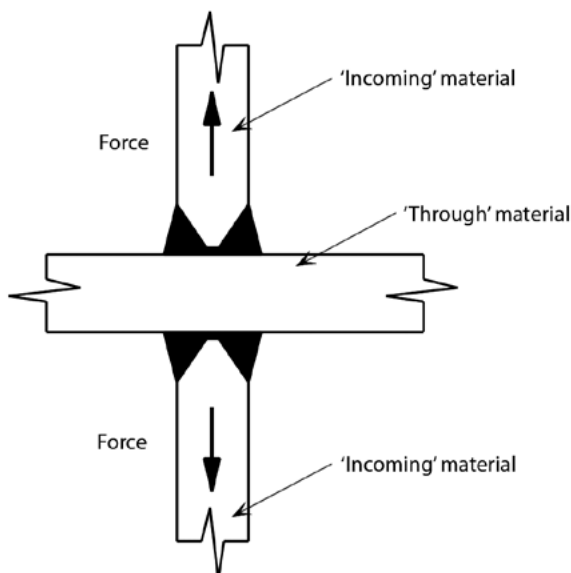

Figure 1 – Cruciform joint
Steel with improved through thickness properties is often referred to as "Z grade", although the formal description is 'Quality class'. The "Z" is simply because the dimensions in-plane are "x" and "y" and out-of-plane, through the thickness of the material, is the "z" direction. The word "improved" is important, as steels to the EN 10025 Standards will generally have resistance to stress in the z direction. The common arrangement used to demonstrate the potential need for improved through thickness properties is shown in Figure 1 – tensile stress is applied through the 'incoming' plates, leading to possible lamellar tearing in the 'through' plate. Lamellar tearing is when the steel in the 'through' plate separates internally.
- The strain through the thickness of the material arises as welds to the surface (see Figure 1) cool and shrink. If that shrinkage is restrained by other stiff parts of the assembly, it is clear that the possibility of lamellar tearing increases,